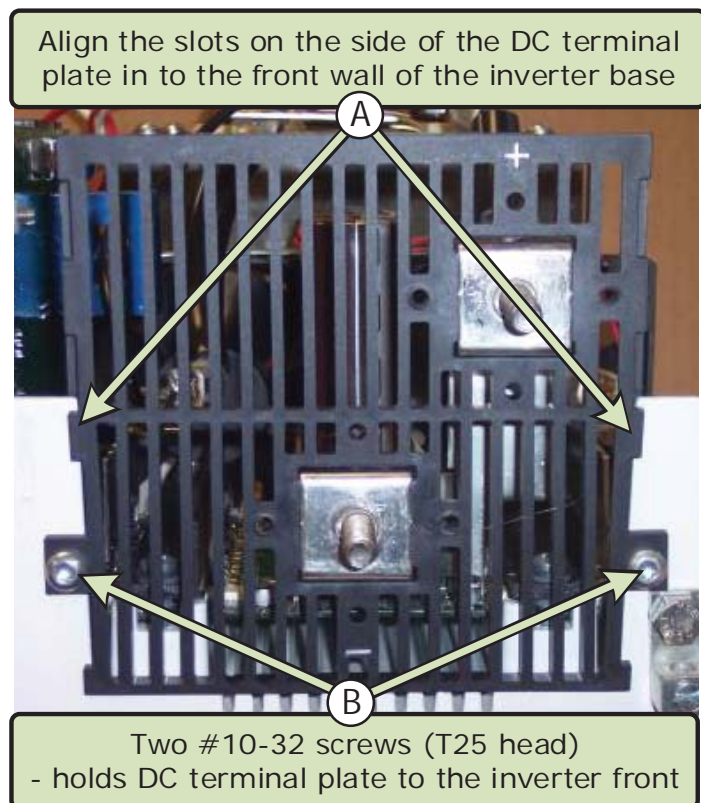

Figure 4, Front of the DC Terminal Plate
4. Remove the two #10-32 screws (T25 head) holding the DC terminal plate to the front wall of the inverter base (see Figure 4, Item B).
1. Slide the new DC terminal plate down the front wall of the inverter base. Make sure the slots on the side of the DC terminal plate are aligned correctly (see Figure 4, Item A).
3. Screw in the two #10-32 screws (T25 head) that hold the front of the DC terminal plate to the inverter base (see Figure 4, Item B).